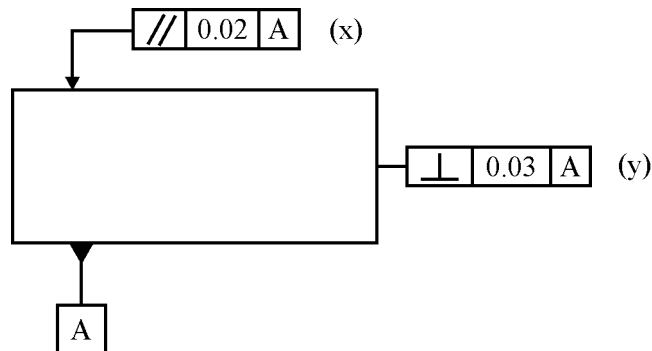

Fig. No. 2
- (g) Refer the Fig. No. 2 and state the meaning of symbol X and Y.